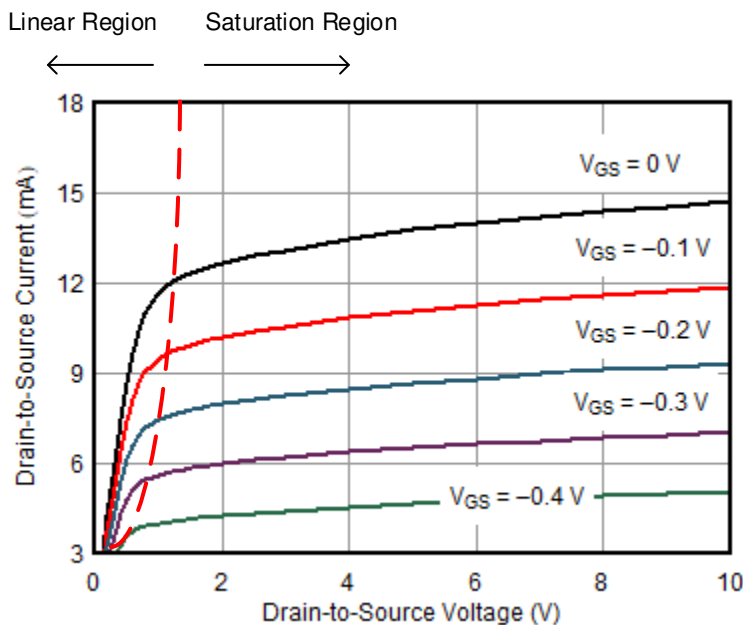

图 8-1. V_{DS} vs I_{DS}
- For $V_{GS} > V_{GSC}$: Two modes of operation can exist depending on V_{DS} . When V_{DS} is less than the linear (saturation) region threshold (see 图 8-1), the device operates in the linear region, meaning that the device behaves as a resistor connected from drain-to-source with minimal variation from any changes in V_{GS} . When V_{DS} is greater than the linear (saturation) region threshold, I_{DS} has a strong dependance on V_{GS} , where the relationship is described by the parameter g_m .